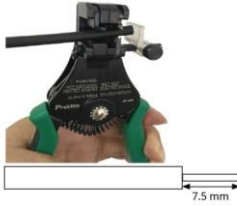

FIG. 7-14 Strip the Cable Insulating Layer
- 1) Strip the insulation of cable to about 7.5mm with the wire stripper tool. Note do not damage the conductors when do the stripping, as per FIG. 7-14.